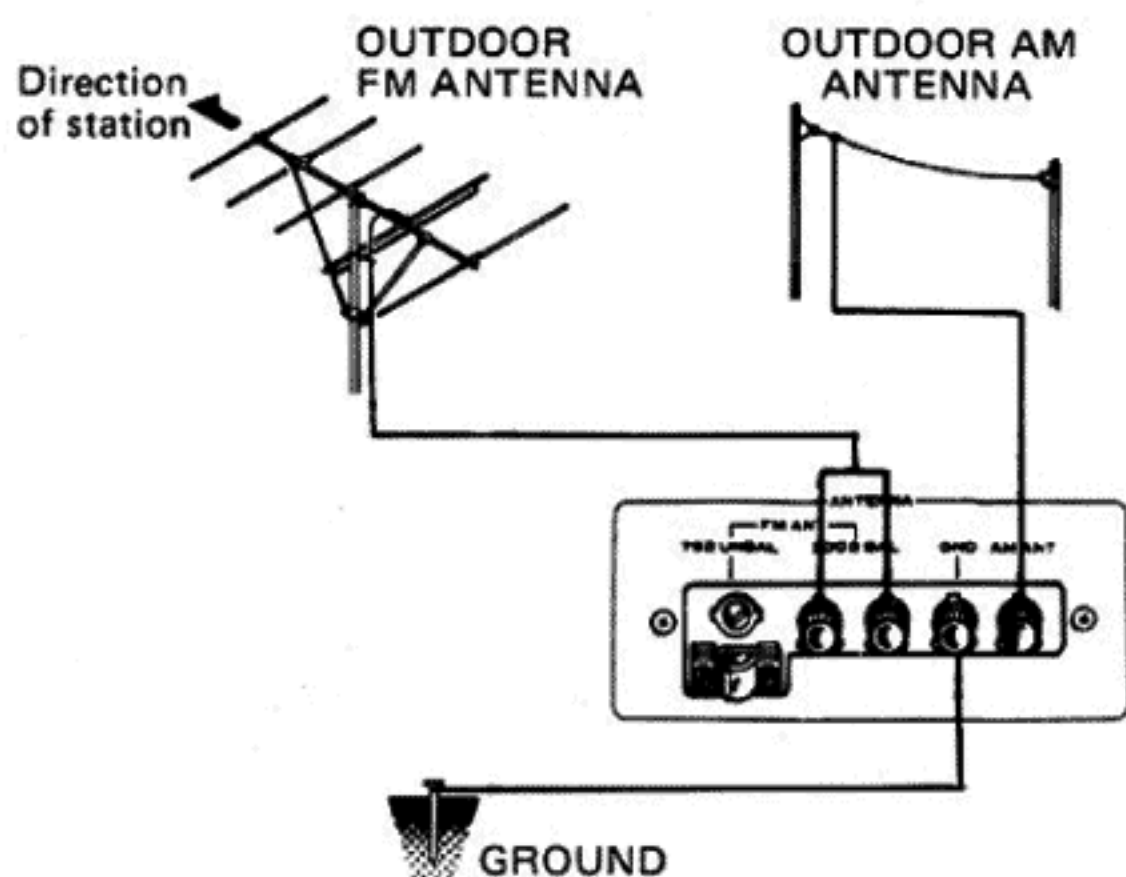

Fig. 3
- Connect antenna feeder wire to the FM ANTENNA terminals of the Receiver (Figs. 3, 5).
If reception is still noisy or weak with the bar antenna, an indoor lead antenna or outdoor antenna can be connected. Connect the antenna lead wire to the AM ANTENNA terminal of the Receiver (Figs. 3, 5).
- An outdoor antenna can be set up as shown in Fig. 3 by suspending vinyl-covered wire between two supports.
For considerations of safety and elimination of interference, it is advisable to install a ground wire as shown in Fig. 3 wherever possible.